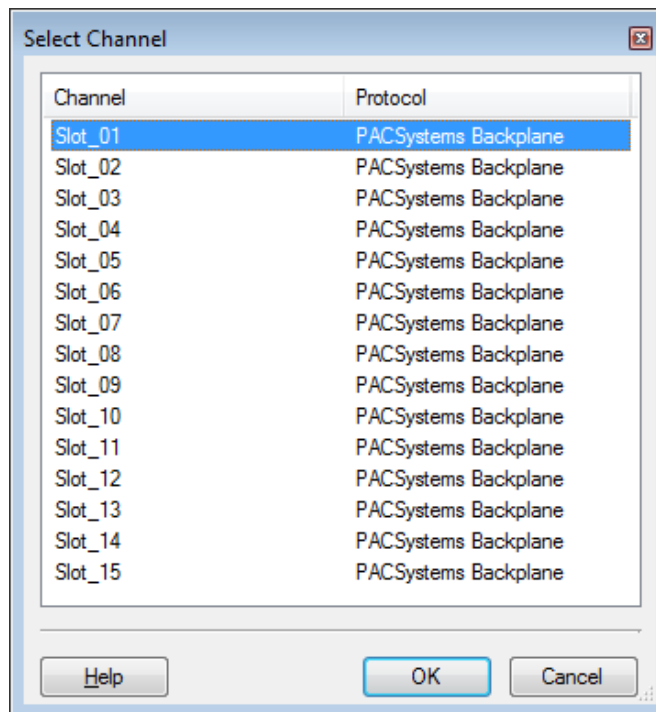

Figure 10: Manually Assigning Analog I/O Module to its Resident Backplane Slot
2. Add an instance of the *PACSystems HART-capable Analog Module* DTM under the *PACSystems HART Communications* DTM. This is typically available from the *Device* menu as *Add* or *Add Device* when the *PACSystems HART Communications* DTM is selected in the project. This opens a dialog similar to that shown in Figure 10: